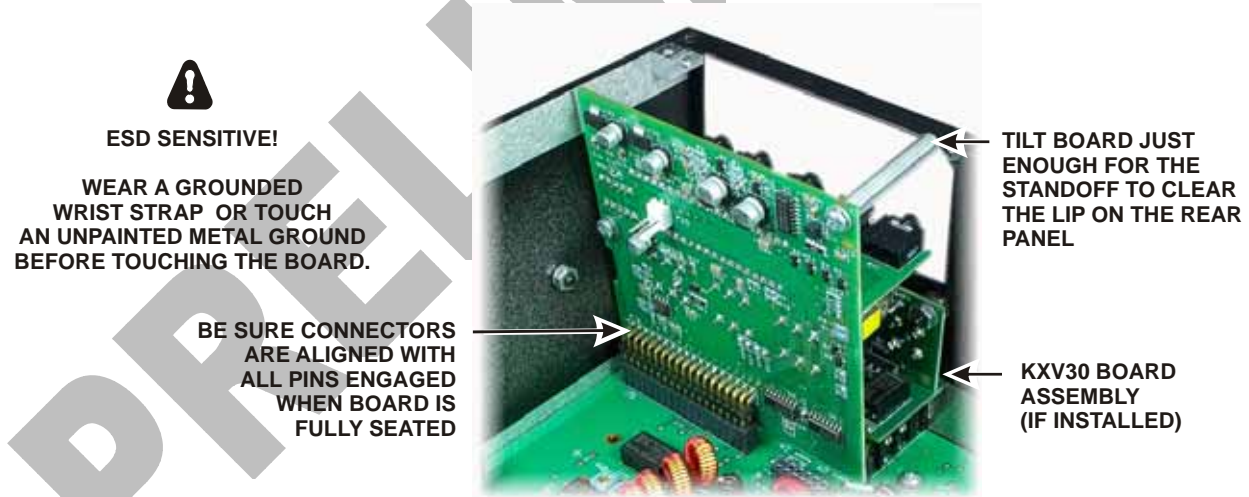

Figure 32. Installing KIO3 Main Board.
□ Install the KIO3 Main board with the Audio I/O daughter board attached into the K3 as shown in Figure 32. The KIO3A main board plugs into J76 on the RF board. Endure the connectors are fully mated so the standoffs line up with the screw holes on the rear panel.